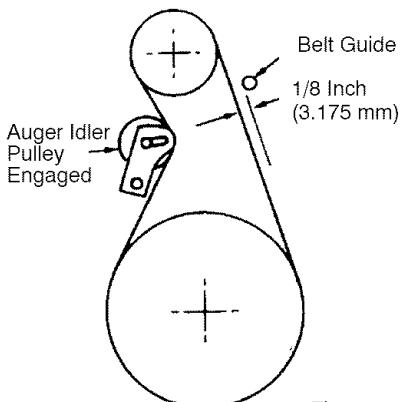

Figure 31
3. Measure the distance between the belt guide and belt. The distance should be  $1/8$  inch (3.175 mm) for guide. See Figure 31.